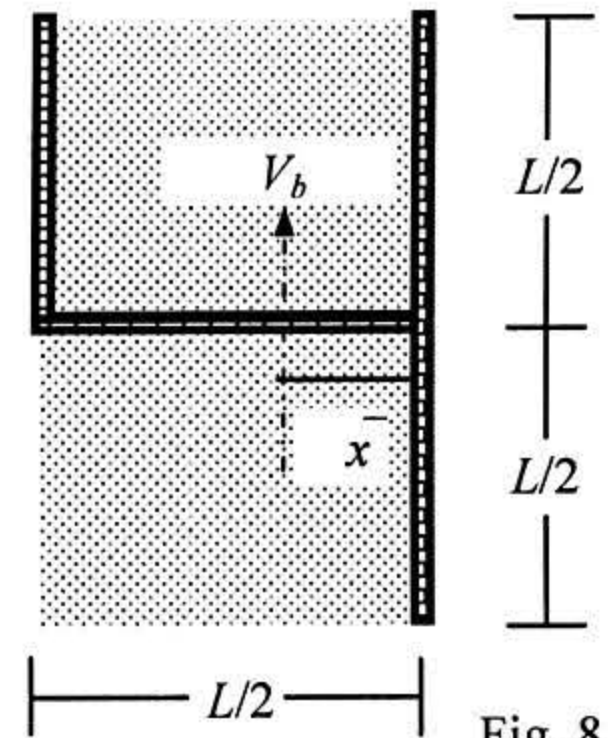

Fig. 8
10. Floor plan of a 4-storied brick masonry building in Dhaka (with 10' high stories and 6"-thick RC slabs) is shown in Fig. 8.